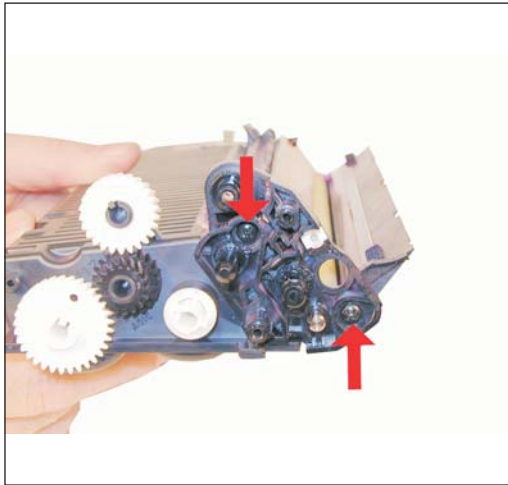

Figure 77
49) On the gear side of the housing, install the inner gear plate and two screws. See Figure 77